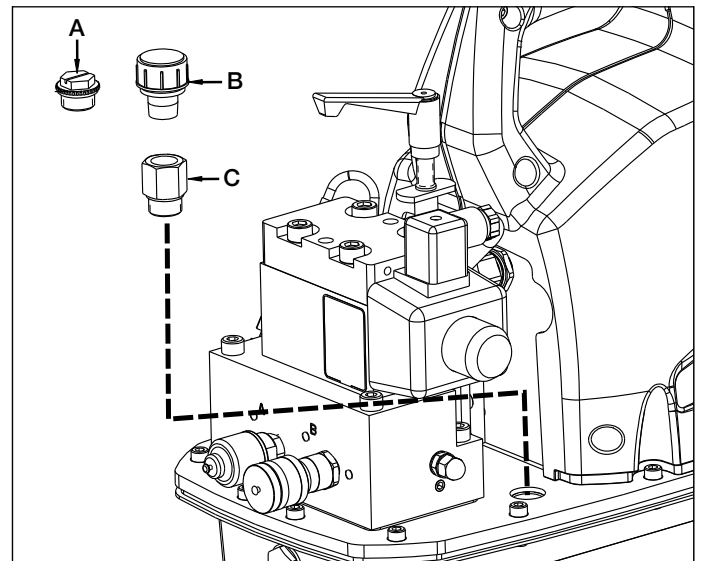

Figure 2, Air Breather Installation
4.2 Air Breather (See Figure 2)